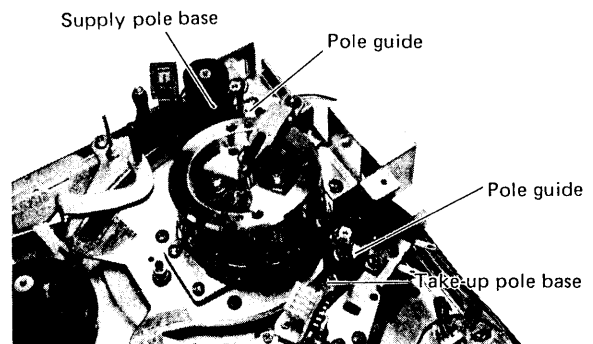

Fig. 2-11 Loading end position
1) Turn the drive rings by hand from bottom side and set the supply and take-up pole bases to end of travel (loading end position as shown in Fig. 2-11).